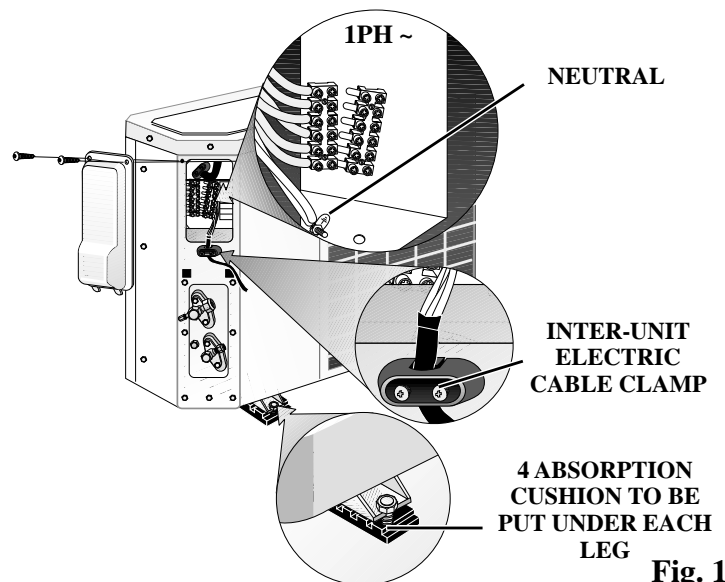

Fig. 10
- Fasten the outdoor unit supports to the base, as shown in Fig. 10. Place the rubber absorption cushions (supplied) under the unit's legs to prevent vibrations.
- Secure the inter-unit electric cable to the outdoor unit using the clamp shown in Fig. 10.